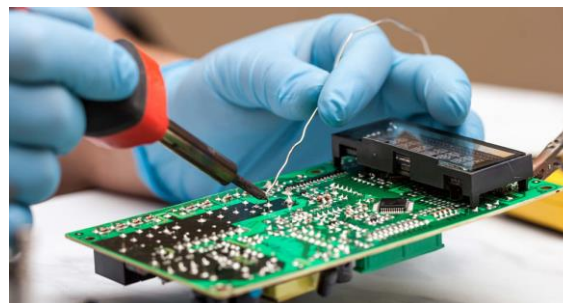

Figure 10.1 Soldering operation
10.1 Preparation of soldering from a circuit board as shown in Figure 10.1